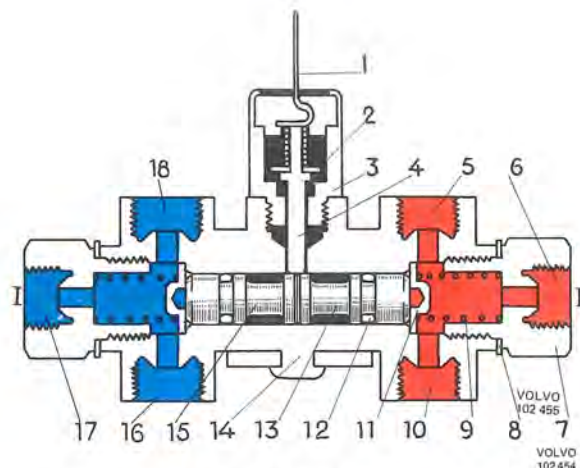
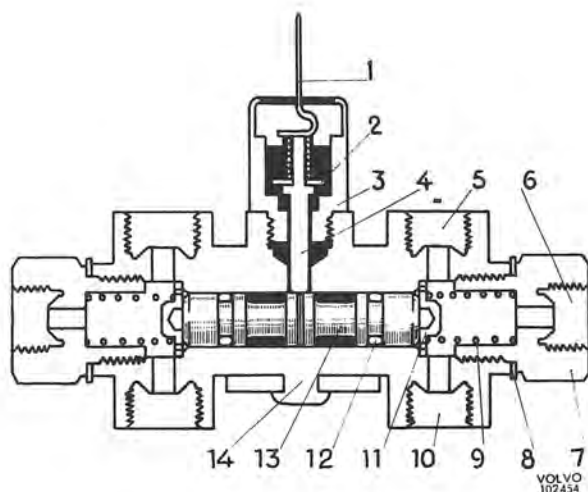
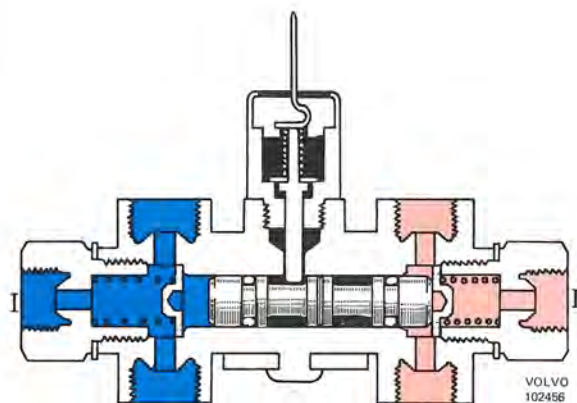

Fig. 5-39. Normal position
Fig. 5-38. Warning valve
Fig. 5-40. Warning position
pressure difference between the two brake circuits exceeds about 10 kp/cm2 (142 psi). The valve design is shown in Fig. 5-38. The valve operates as follows: During normal braking when the pressure is the same in both circuits, the piston position is according to Fig. 5-39. But if the pressure is lower in one of the circuits, for instance because of leakage, the higher pressure will displace the piston. This lifts the thrust washer (11) and the pressure of the spring (9) counteracts the displacement. It is only when there is a pressure difference between the circuits of about 1 MPa (142 psi) that the pistons are pushed so far to the right that the guide pin (4) can be pressed downwards. When this happens, the switch washer (2) reaches the housing (3) and current cuts in (Fig. 5-40). The guide pin is prevented from returning to its normal position until the fault has been rectified and the switch housing (3) screwed out.